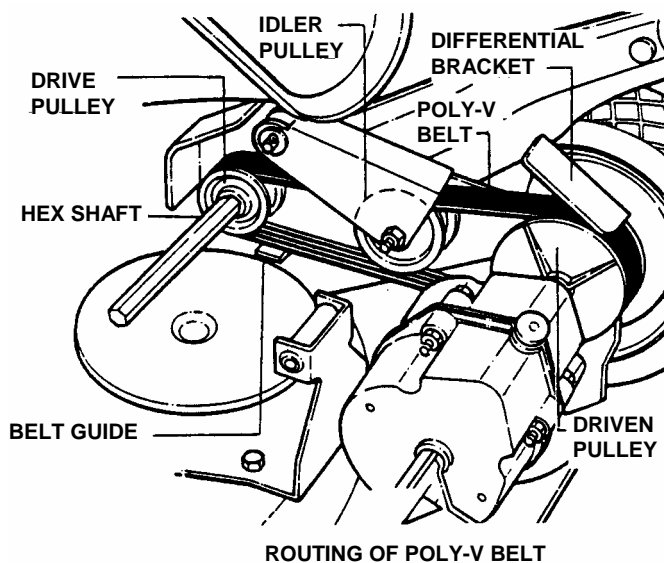

FIGURE 4.17
2. Note the routing of the old belt around the three pulleys before removing it. See Figure 4.17.
5. Twist belt sideways and pull it upward between the differential bracket and drive pulley and then down into the pulley groove. Make sure the Poly-V Belt is above belt guide. See Figure 4.17.